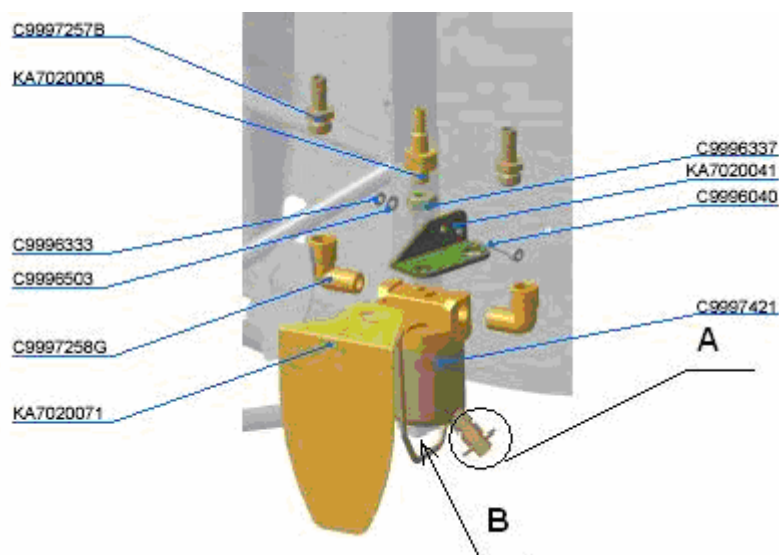

Fig. 6
2. For passing fuel through the lines and water in fuel by draining some fuel through the drain valve (item A, Fig. 6).
3. For foreign objects in the gascolator (Unscrew the nut (item B, Fig. 6), remove the bail and remove the body (ensure integrity of the O-ring that recovers its sizes upon some time needed to get it dry). Assemble the gascolator in reverse o the disassemble process).